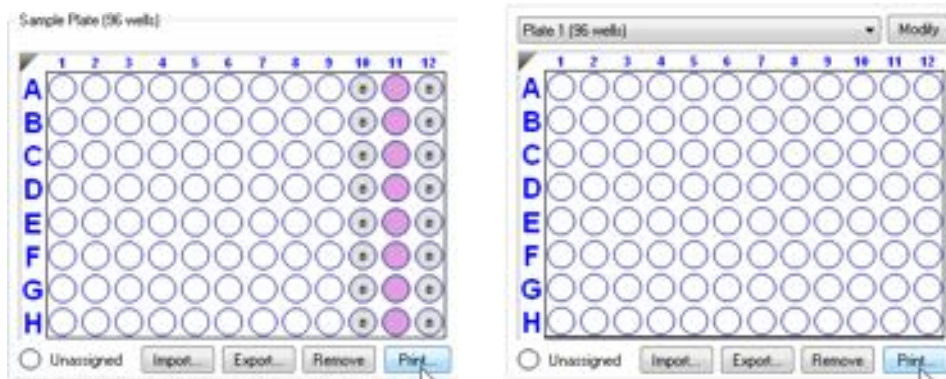

Figure 7-36: Sample Plate/Plate 1 Print Button
1. In the **Sample Plate/Plate 1 Map** (see Figure 7-36), click **Print**.